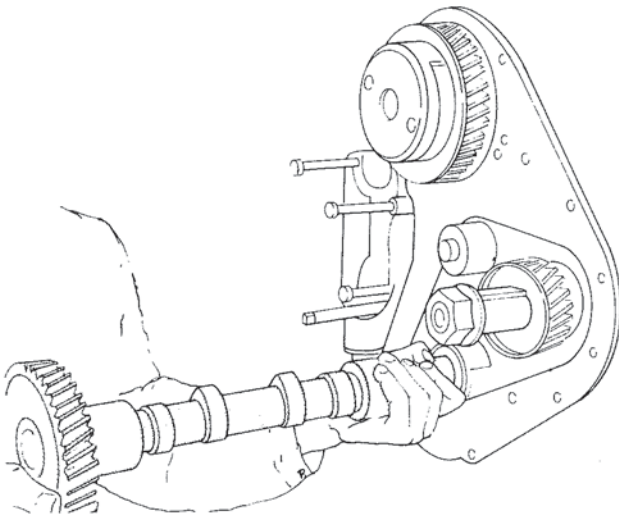

Figure 53. Installing Camshaft.
14. Liberally oil camshaft bearings, slowly guide camshaft into place. Secure camshaft thrust plate. Figure 53.